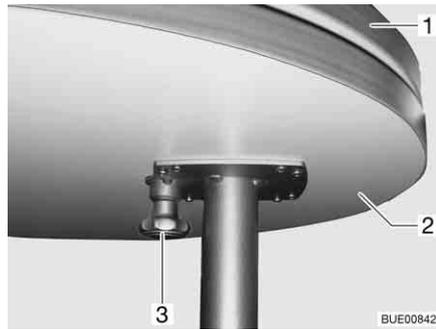

Fig. 95 Swing-out table extension
- Pull the knob (Fig. 95,3) of the lock down and swing out the table extension (Fig. 95,2).
- Swing the table extension (Fig. 95,2) under the table-top (Fig. 95,1) until the lock latches in place audibly.